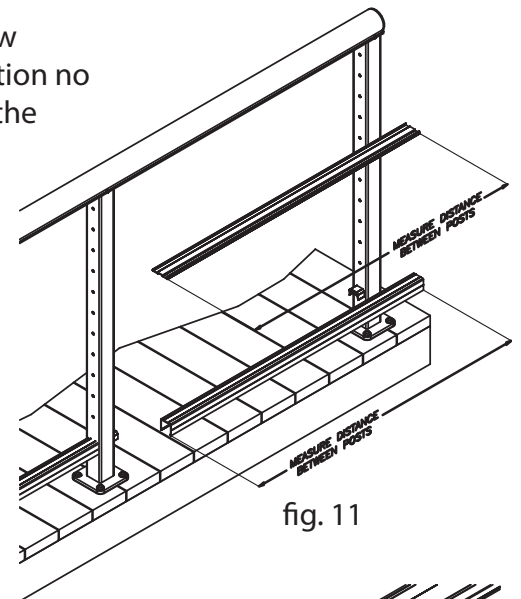

fig. 11
7) Cut Bottom Rails (fig.11): Measure between each set of posts just above the RCB's. Write down your measurements. Cut the bottom rail for each section no more than 1/16" less than the measurement you recorded. Do not install the bottom rails to the the frame at this time.
8) Cut Top Rail Infills (fig.11): Measure between each set of posts just below the top rail. Write down your measurements. Cut the to rail infill for each section no more than 1/16" less than the measurement you recorded. Do not snap in the top rail infills to the top rail at this time.